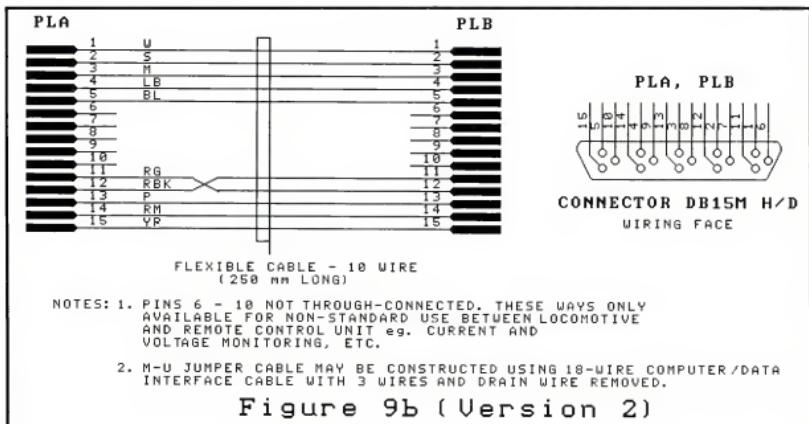

Figure 9b (Version 2)
- Referring to Figure 9b, on one plug of the interconnecting jumper cable remove the shell and reverse the wires connected to pins 11 and 12. Check and make sure there are no bridging strands of wires. Replace the shell and paint a 5-10mm wide red band around the cable on the modified end to remind you that it has the direction switch.